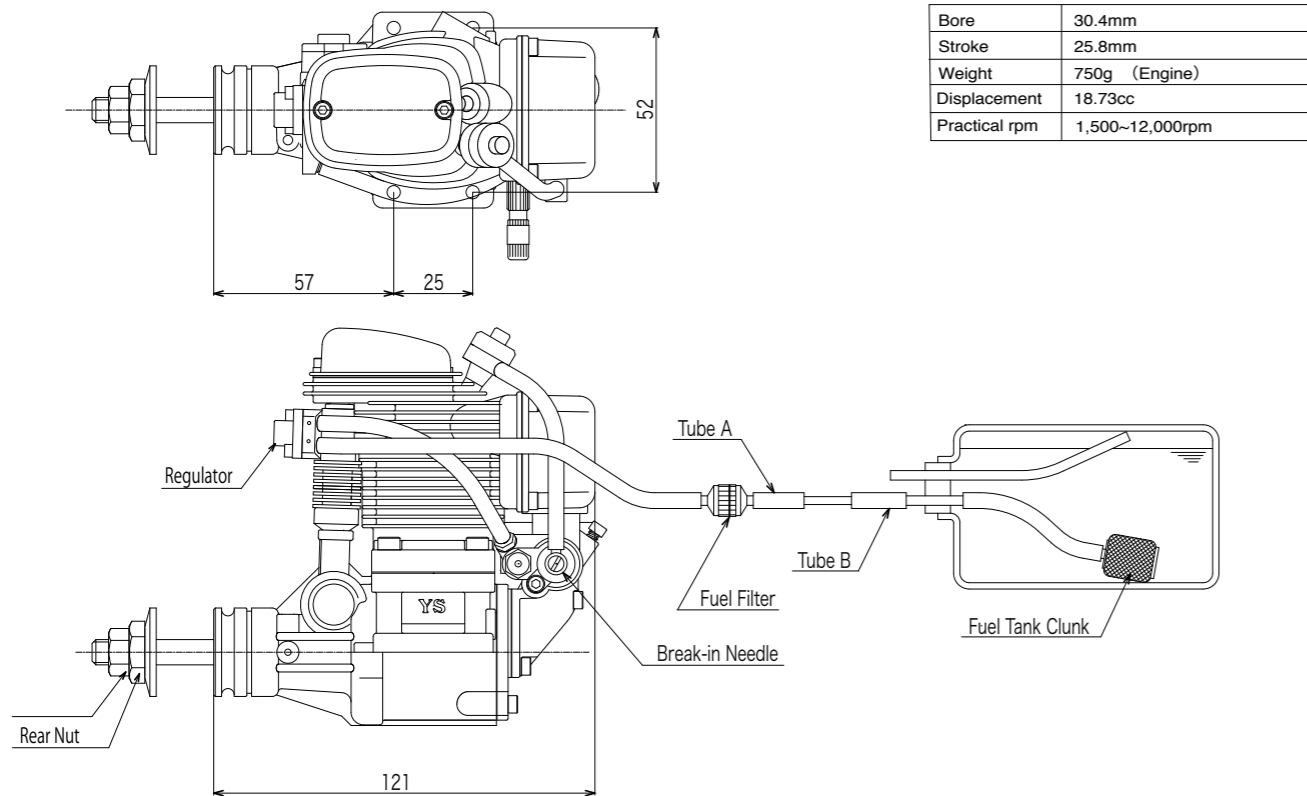

FIG 1
1. Connect the engine to the tank as in Fig.1. The recommended fuel tank size is 400cc to 500cc. A standard clunk type fuel tank may be used. If this type of tank is used, you must use the special clunk supplied with the engine. Please note that with this clunk, some fuel cannot be drained from the tank. As soon as any part of the clunk becomes exposed, the engine will stop due to air entering the fuel pump.
2. When filling the tank, disconnect Fuel Tube "A" or Fuel Tube "B" (Fig.1) for filling. If you use a "T" nipple on the fuel line for filling, use a stopper on the Fuel Tube "A" to avoid flooding the engine.